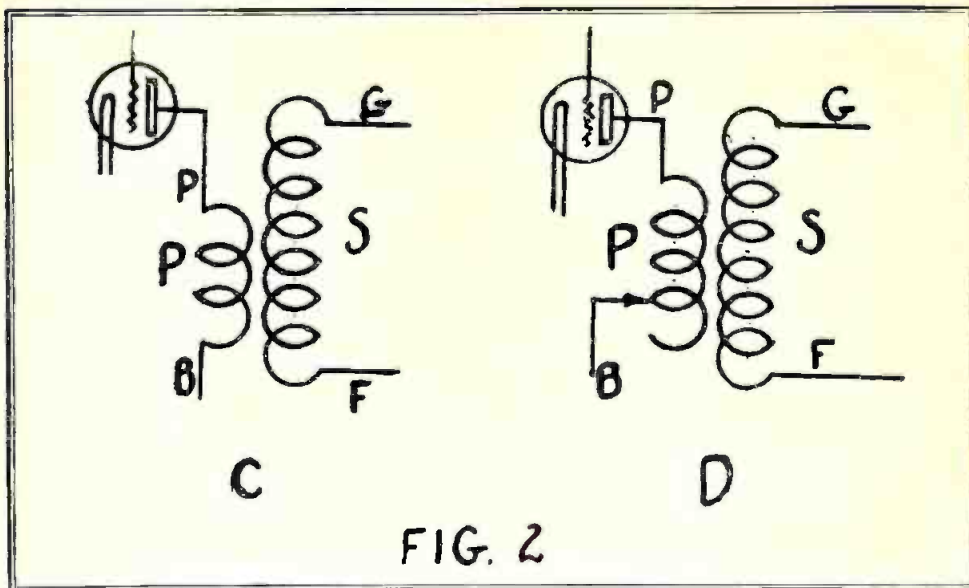

FIG. 2
Figs. 1 and 2. Fig. 1 shows the typical curve of plate current voltage, while Fig. 2 shows the typical curves of grid and plate characteristics, the result of tests described in the accompanying article.
TO make a grid characteristic curve—figure 2, the plate voltage will be set at 40 volts—the grid bias voltage will be adjusted until the meter (GM) shows 0 with the switch on point (+). The reading of the milliammeter (MA) will be located on the chart as before—and readings for each fraction of a volt will be spotted—as in figure two. The 40 volt curve showed a plate current of 1.2 milliamperes and at 1 volt (+) it read 1.5 milliamperes and so on to 2 volts (+) it read 1.8 milliamperes. Going back to 0 volts and shifting the switch (BS) to a negative bias, the readings were taken the same as above, except they were inversely proportional to the grid voltage,
Fig. 2—How radio frequency tubes are coupled to each other. At "C" is the universally popular "fixed primary" type. This, however, is efficient only over a moderate wave band. Varying the coupling from about 5 to 12 turns, as at "B," gives better results on all wavelengths.
In Fig. 2, "C," is shown such a coupler in circuit form. The secondary, of course, is of the proper size to cover the broadcast band in conjunction with the variable condenser that tunes it. The primary is as large as possible, but not so large that it passes sufficient energy back to the grid to cause oscillation of the tube. In practise, such an ideal transformer is out of the question, for it is perfectly efficient for only one wavelength or a very narrow band of wavelengths.
In "D," Fig. 2, is shown the variable primary coupler. Here a tap switch is connected to change the coupling for long and short waves. Such a plan is of most value in sets having only one stage of tuned radio frequency and a detector, either crystal or tube. With the average coupling coil, a fixed primary of about 6 to 8 turns is adopted. Many tuned R. F. reflex sets are made up in this manner. If they are good for long waves, oscillations prevent good reception on short waves, and if excellent on short waves, the long wave stations come in poorly, although with no trace of oscillation.
Fig. 2. Interior view of the super-autodyne. The instrument designations will be found in the text. The sockets, from left to right, are: V1, autodyne, V2, 1st R. F.; V3, 2nd R. F.; V4, 2nd Det.; V5, 1st A. F.; V6, 2nd A. F.; Socket shelves may also be procured for UV199 or C299 tubes.